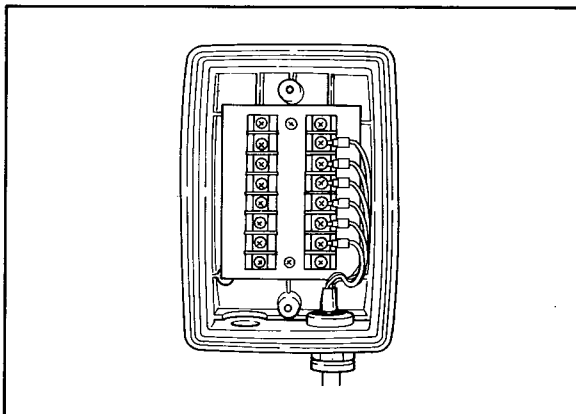

Figure 2-13. Sensor Cable Connection to Terminal Box.
- (2) Loosen two screws on the terminal box front panel and remove the cover.
- (3) Connect the sensor cable to the terminal box terminals. First, remove the nut from the cable gland, then pull the cable into the internal assembly through the wiring hole. Pass the cable through the nut. Correctly connect each conductor to the corresponding terminal, observing conductor marking (see Figure 2-13).